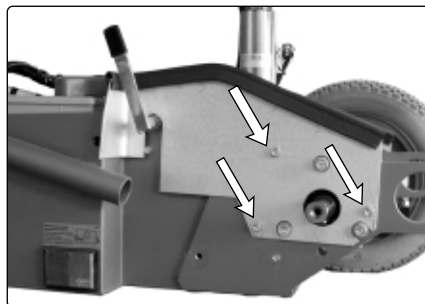

Bild 4. The shroud is held in place with three screws
4. Remove the shroud which is held in place with three screws, see Fig. 4.